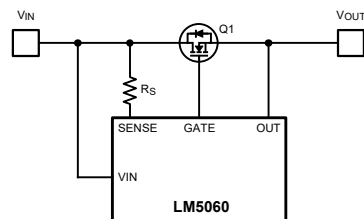

Figure 27. Setting the  $V_{DS}$  Threshold
The LM5060 monitors the  $V_{DS}$  voltage of the external N-Channel MOSFET. The drain to source voltage threshold ( $V_{DSTH}$ ), which is set with the resistor  $R_S$ , is shown in Figure 27;
- $R_{DS(ON)}$  is the resistive drop of the pass element Q1 in Figure 27